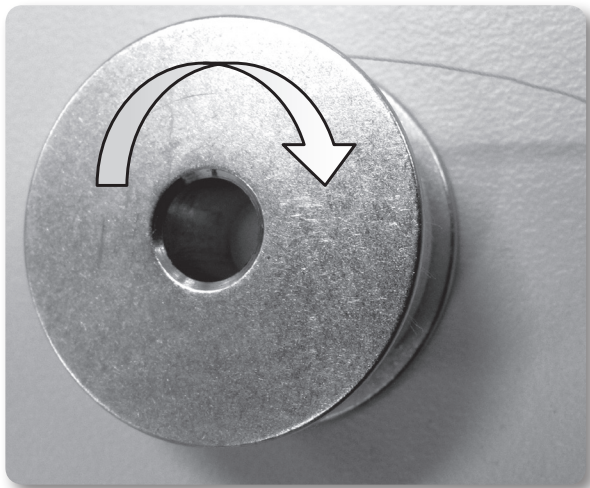

Figure 13
1. Place the bobbin in the bobbin case so that the thread pulls off clockwise when viewing the open side (Figure 13).